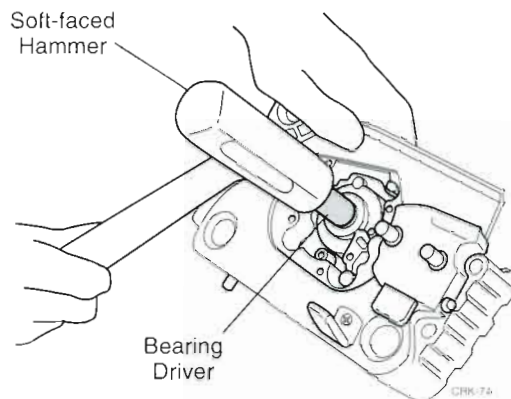

Figure 8.13 Removing Bearing with a Driver
STEP 2. Using an appropriate bearing driver and a soft-faced hammer, carefully tap each bearing from its bore in the crankcase (Figure 8.13).